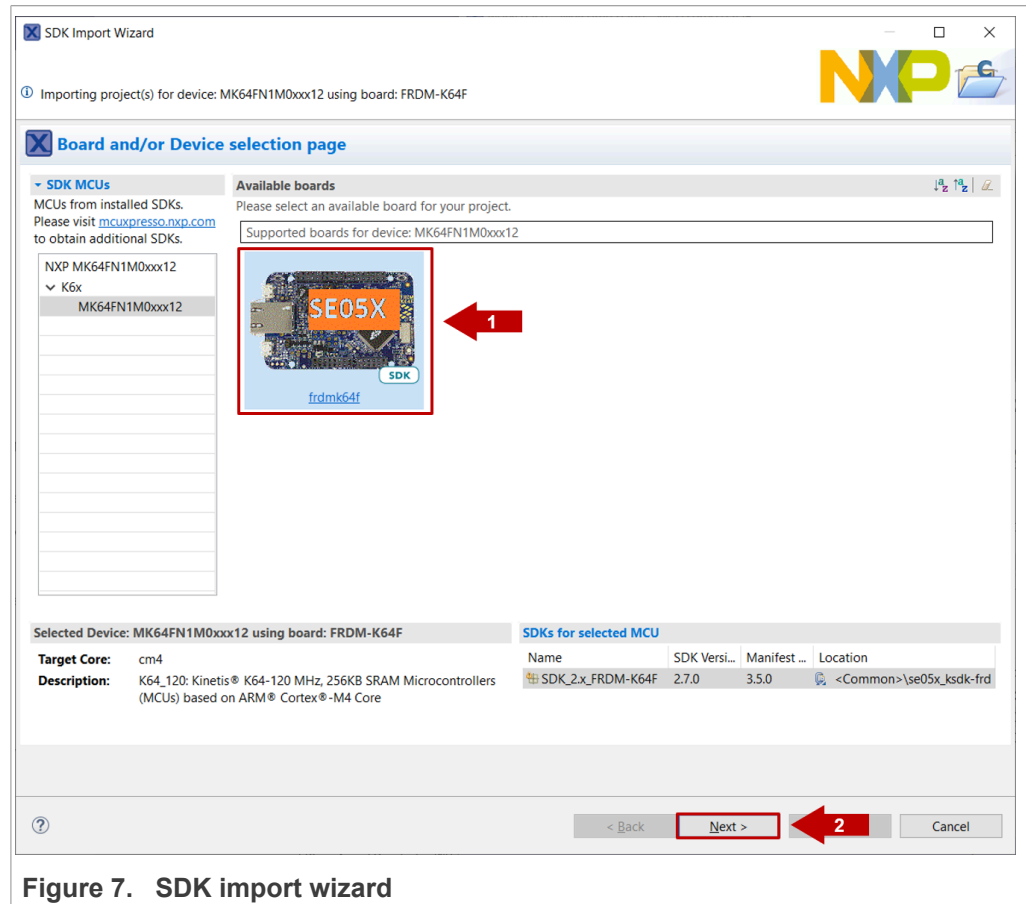

Figure 7. SDK import wizard
- The SDK import wizard will be opened. You should see a figure of an FRDM-K64F board with an orange label. Select the board and click *Next* button as shown in Figure 7: